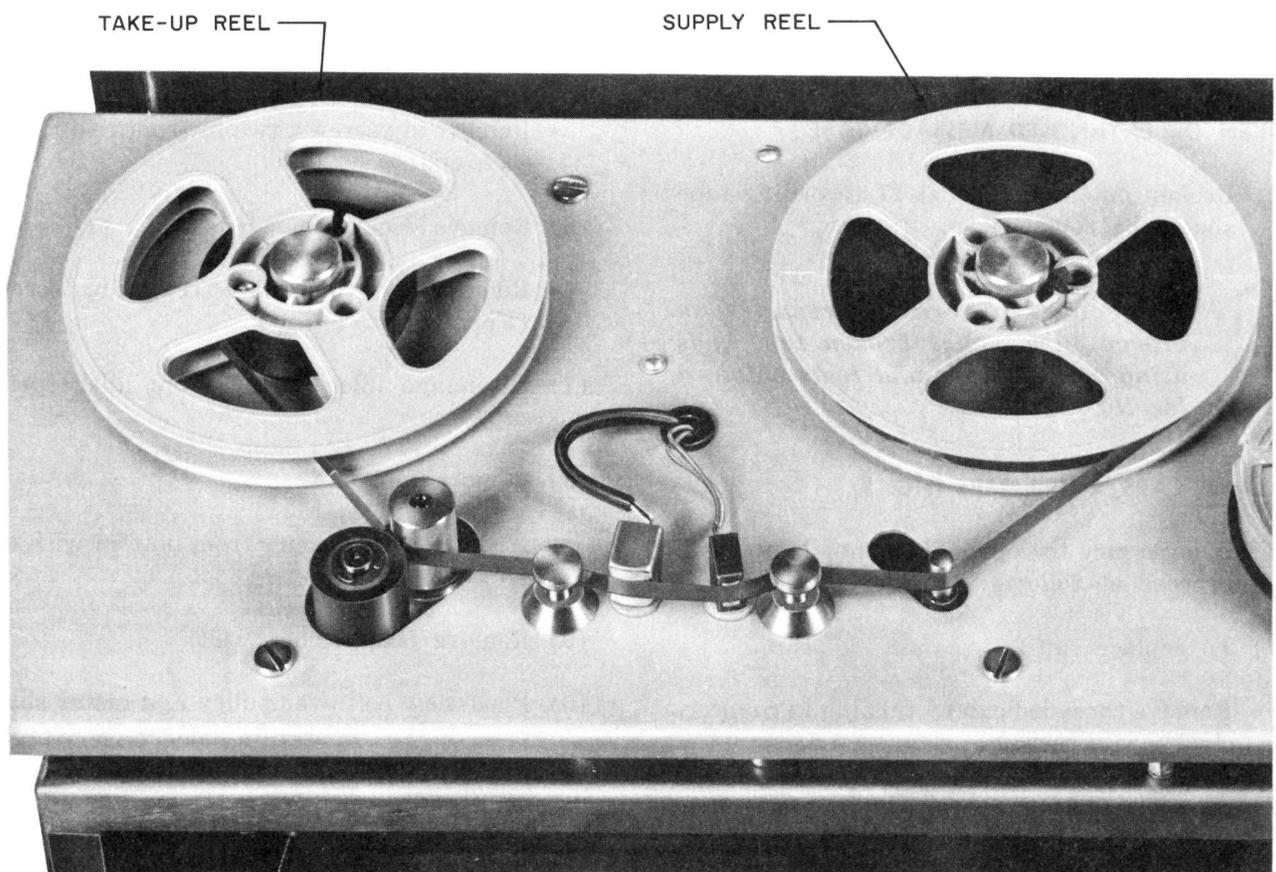

Fig. 5 — KS-16923, List 11 Recording Tape
5. KS-16923, LIST 11 RECORDING TAPE (FIG. 5)
- (1) Run the set (reels removed) in fast forward (FAST FORWARD key and RESET button depressed) to obtain a reading of 645 on the elapsed tape indicator.
- (2) Install the full reel of tape on the take-up hub (left reel hub) and the empty reel on the supply hub.
- (3) Thread the loose tape end from the take-up reel to the supply reel and wind two or three turns onto the supply reel by hand. Follow path of tape shown in Fig. 5.
- (4) Run the set in rewind to obtain a counter reading of 000.
- (2) Install the full reel of tape onto the supply hub (right reel hub) and the empty reel on take-up hub.
- (3) Thread the loose tape end from the supply reel to the take-up reel and wind two or three turns onto the take-up reel by hand. Follow path of tape shown in Fig. 5.
- (4) Run the set in fast forward to obtain a counter reading of 000.